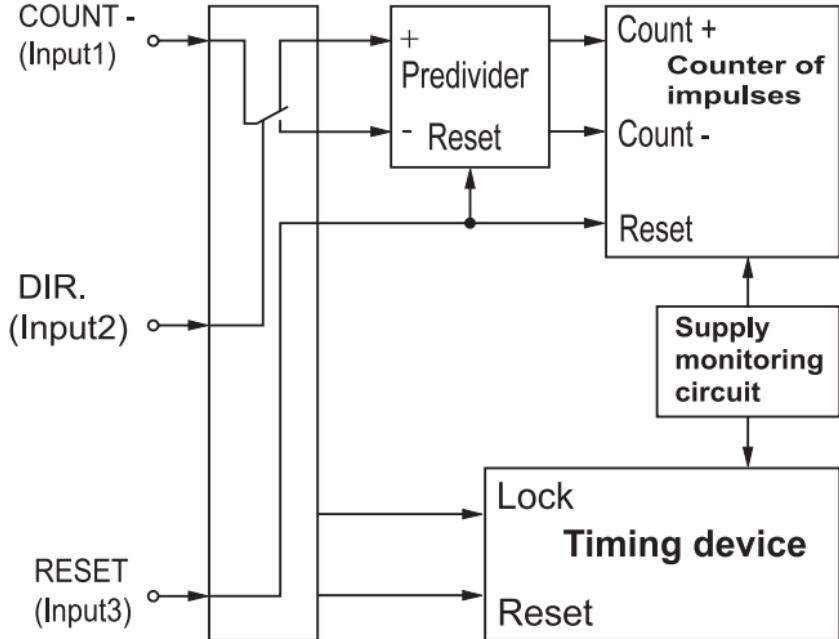

Figure 13. Up/down count with common count input, count direction set by external signal and external reset
3.1.7.5. Up/down count with external reset and direction set by external signal is set at **inP=4** (figure 13).